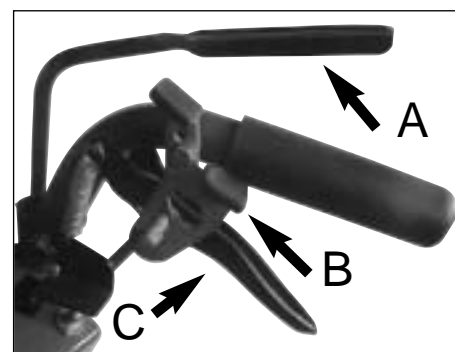

Figure 5
1. Making sure that the traction control levers are in the neutral position, push down and hold the operator presence control lever “A” on the handle grips with one hand (Figure 5).
4. Slowly and evenly, let both traction control levers down simultaneously and the mower will start to go forward (Figure 5). NOTE: If the operator lets go of both operator presence control levers while either the blade control lever is in “ON”, and/or the gear shift control lever is out of the neutral position the safety interlock system will stop the engine. To restart the mower, reset all controls to the “OFF” position and neutral “N” positions.